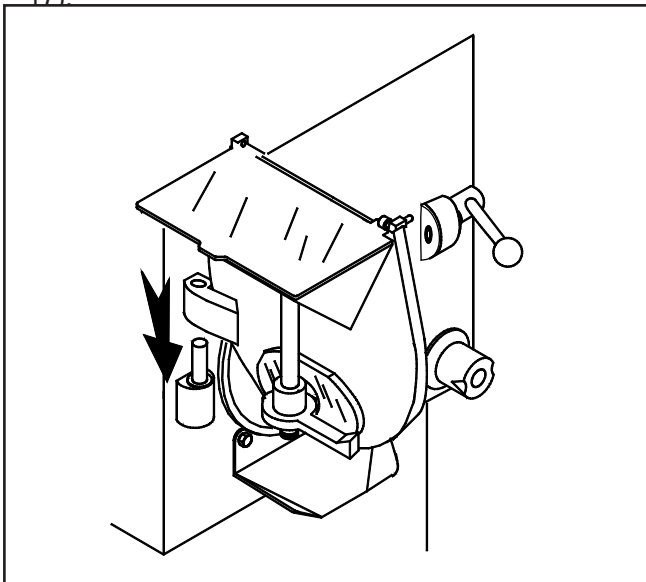

Figure 17
- Insert the assembled front door on the hinge (ref. Fig. 17).